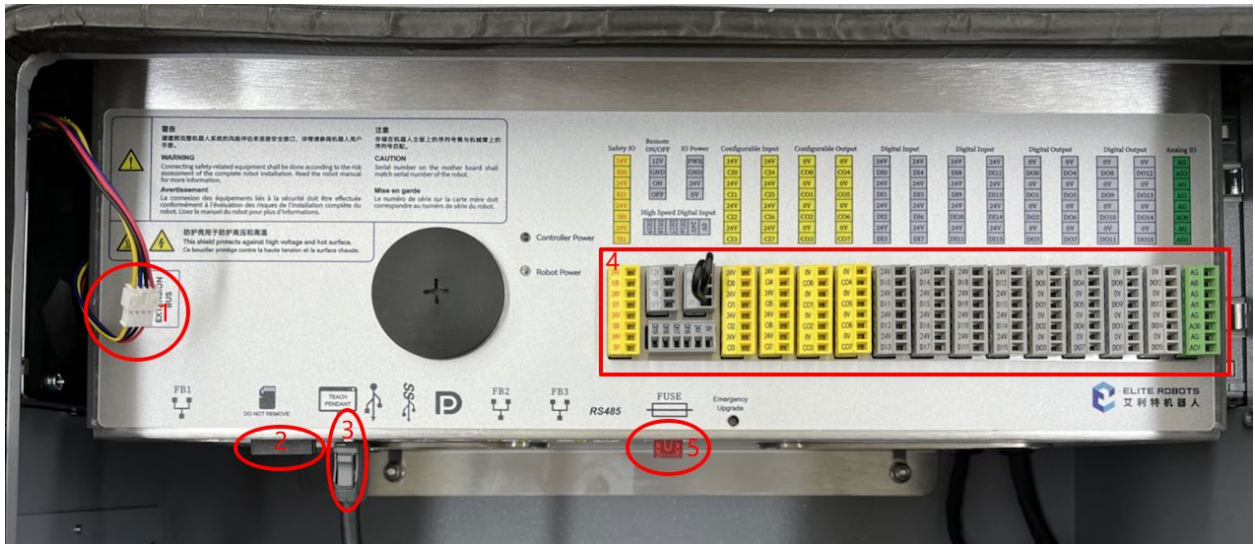

Figure 3-24 Items for removing or disconnecting
- Remove or disconnect the following parts, as shown in Figures 3-24: